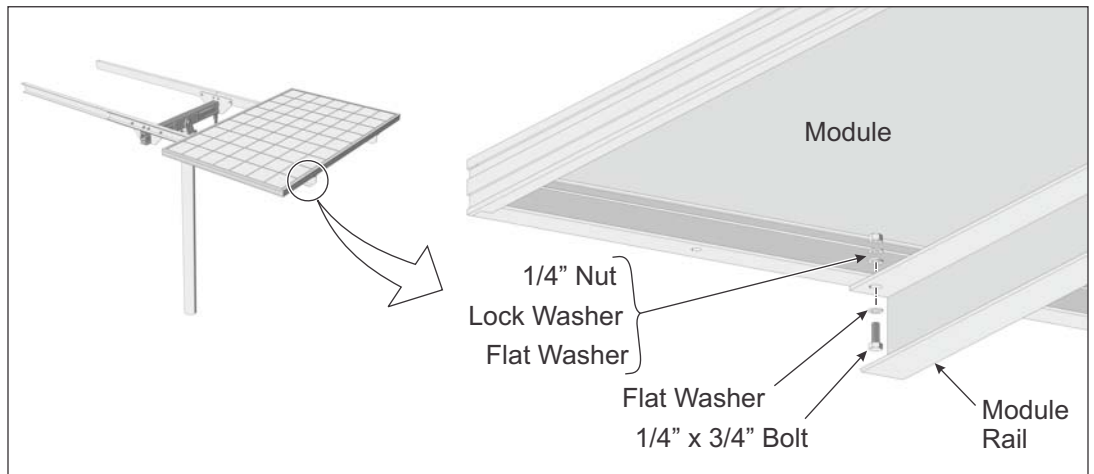

Figure 4-1: Installing PV Modules to Module Rails
- A. Place PV Module on Module Rails and align the mounting holes. Secure with 1/4" x 3/4" bolts and hardware. Each Module has four attachment points. Finger-tighten for now. (See Figure 4-1)